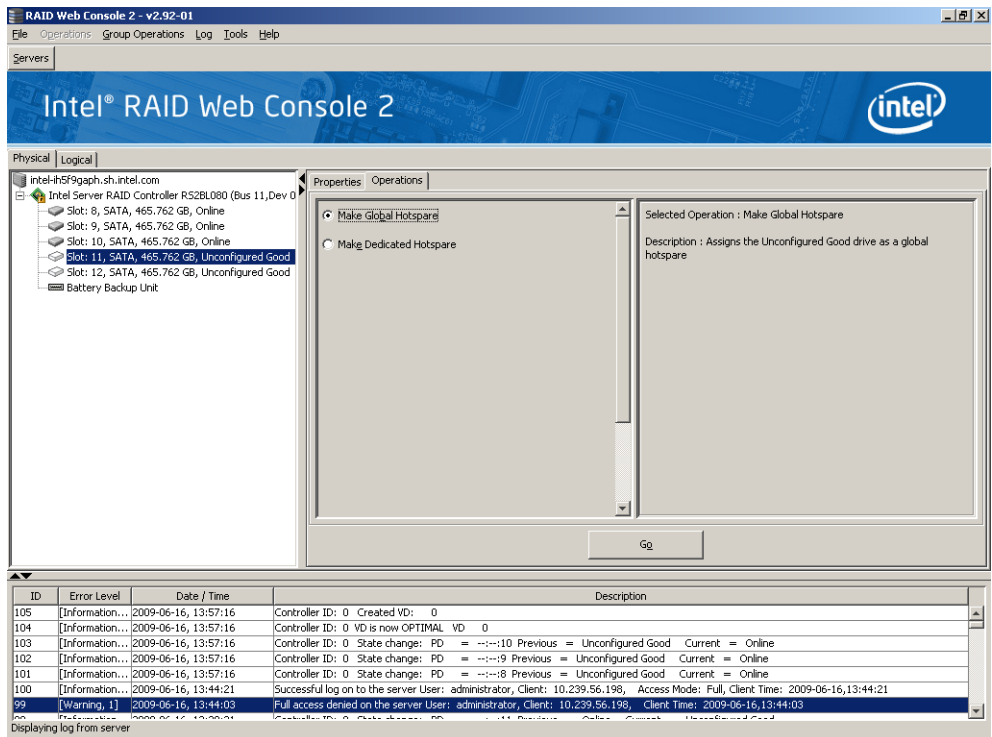

Figure 56. Make Global Hotspare
2. In the right panel, click the **Operations** tab and select **Make Global Hotspare**, as shown in Figure 56.